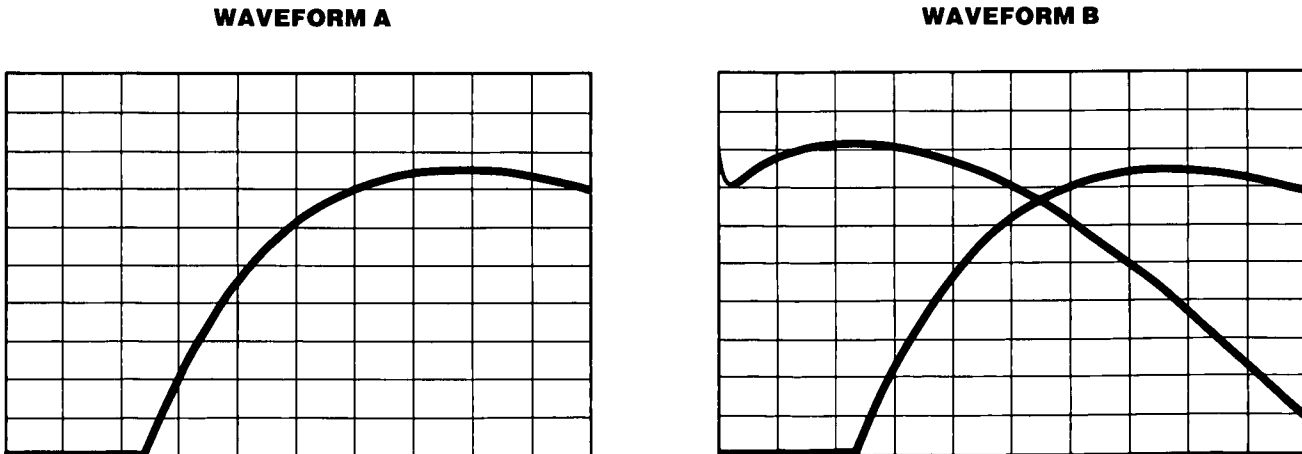

Figure 5-25. Spectrum Analyzer Waveforms of YO Loop Gain
26. A trace similar to Figure 5-25, Waveform A should be displayed on the Spectrum Analyzer.
27. On the Spectrum Analyzer, press **[STORE A → B]** to store the trace from A into Trace B. On the Special Test Fixture, set switch S1 to position 2. The Spectrum Analyzer should display the two traces similar to Figure 5-25, Waveform B.